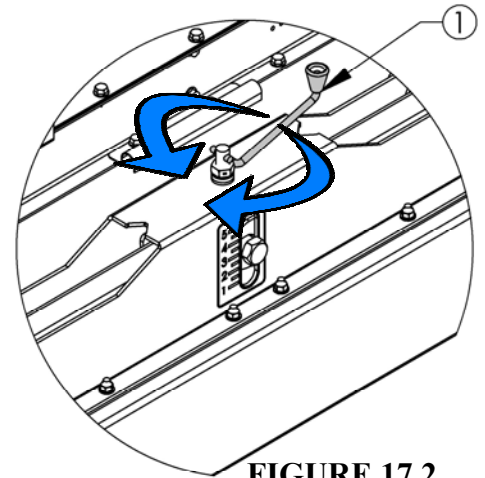

FIGURE 17.2
- To **raise** deck - Rotate Handle ① clockwise. **Figure 17.2**
- To **lower** deck – Rotate Handle ① counter-clockwise. **Figure 17.2**